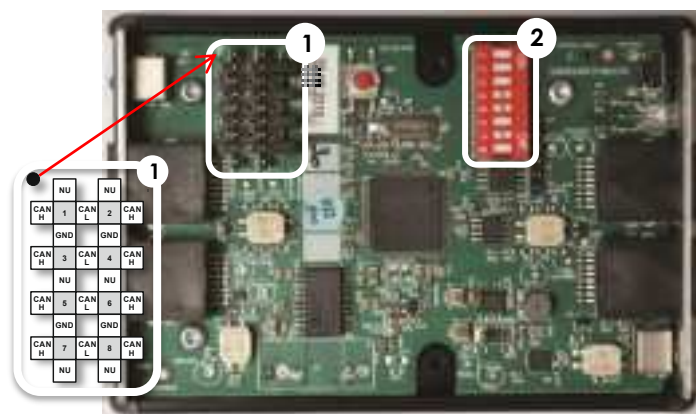

Figure 1: Electronic board inside the Xcom-CAN
Any communication signal can be assigned to any pin of the RJ-45 connector by using the jumper array (1) in Figure 1.